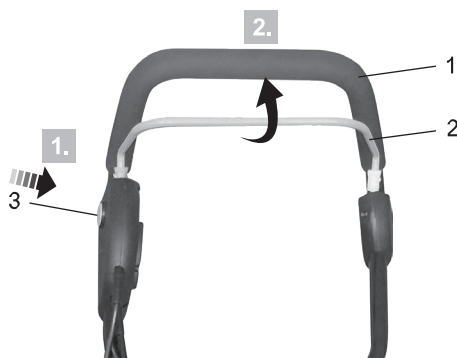

Fig. 8
1. Press down the lock-off button (3) and hold it in position (Fig. 8, step 1),
2. Pull the start lever (2) towards the grip handle (1) (Fig. 8, step 2) to switch the garden tiller on, release the lock-off button (3) afterwards.
3. Release the start lever (2) to switch the garden tiller off.